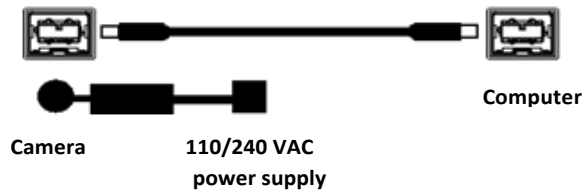

Figure 5 — FireWire and external power supply connection
- In order to obtain the cooling specification of the camera, the supplied external power adapter needs to be connected to the camera as shown in Figure 5 below.
- If you have a laptop computer, you can use the built-in FireWire port, ExpressCard, or a PCMCIA card. However, should you connect to a laptop computer you will still be required to connect the supplied external power supply to the camera in order to power it (see Figure 5). Optional powering of the ExpressCard or PCMCIA card will not be required in this configuration.